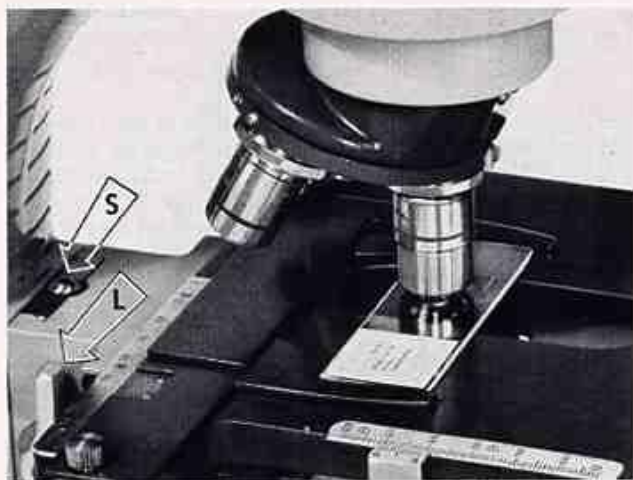

Figure 4. Autofocus Stop
- e. Make sure the stage assembly is in firm contact with the Autofocus Stop "S" in figure 4, page 4. While supporting the stage in one hand, unlock the locking lever "L" in figure 4, and lift the entire stage assembly to assure firm contact with the Autofocus Stop. Then lock the locking lever.
The autofocus stop is pre-set at the factory. It is the stop which limits the height of the stage (see figure 4). This setting is valid for slides anywhere from 0.50 to 2.5 mm. in thickness. Because of the highly precise tolerances held in the manufacture of the objectives (affecting both parcentration and parfocality), it is possible to search the slide with 10X or 45X objectives, find the field required for study under oil
- a. Remove autofocus stop screw (figure 4).